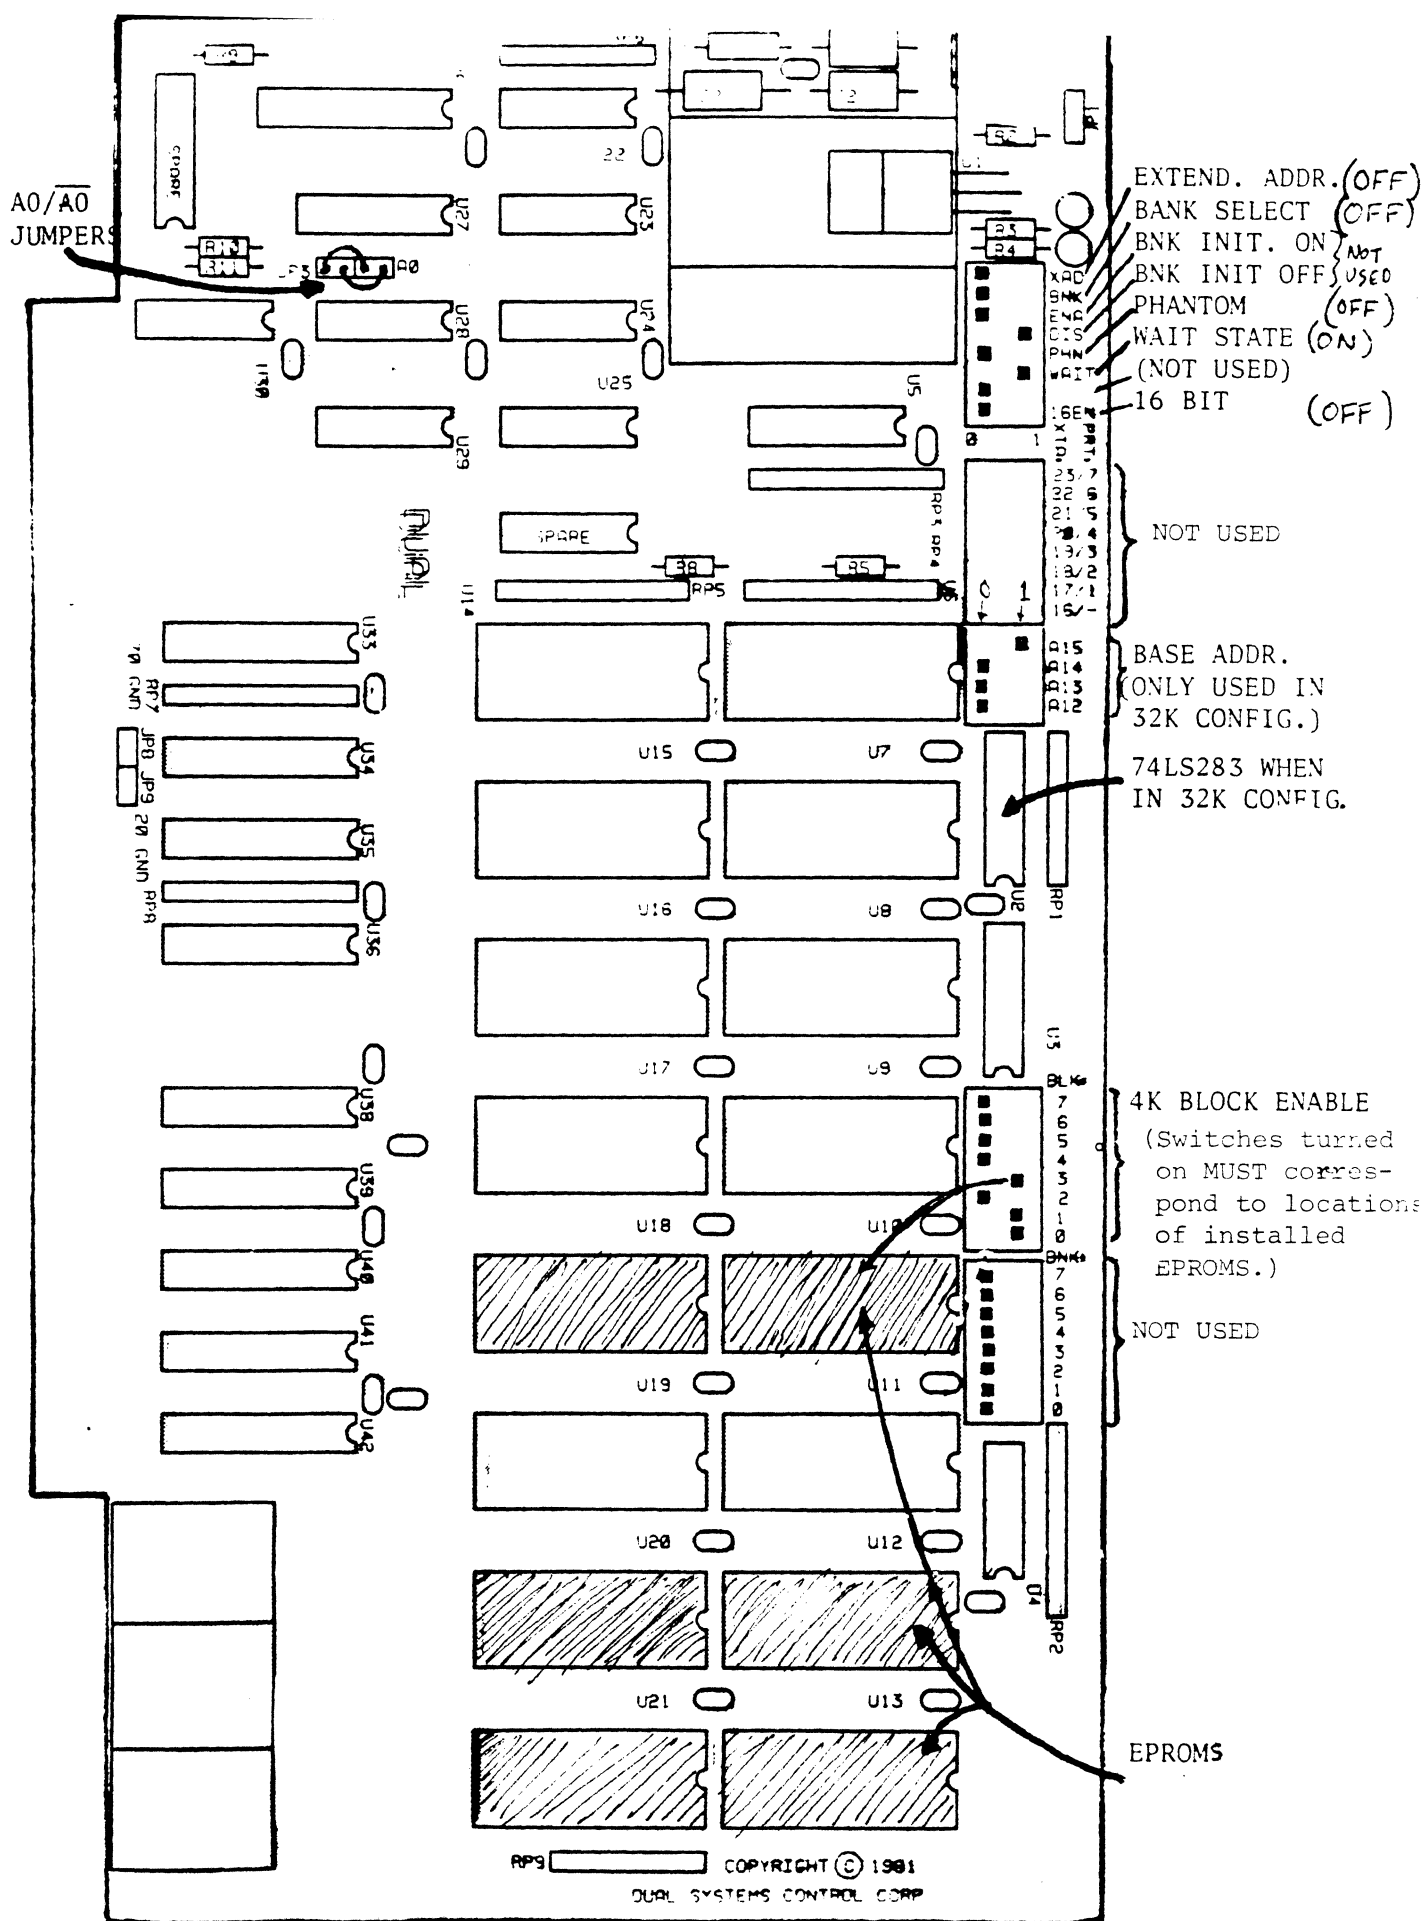

Figure 4. Example of simplest configuration of EPROM=32/64K
1. A "NO OPTIONS" mode, in which the EPROM-32/64K is used in its factory configured 32K mode, in 8-BIT computers, without the need for multiple memory banks or extended addressing. THIS SIMPLE CONFIGURATION IS ALL THAT IS REQUIRED IN MOST APPLICATIONS. SEE FIGURE 4.
An example of the switch settings for a system that is set up for simple 16 bit addressing is shown in figure 4. In this case, the user is configuring an EPROM board as follows: